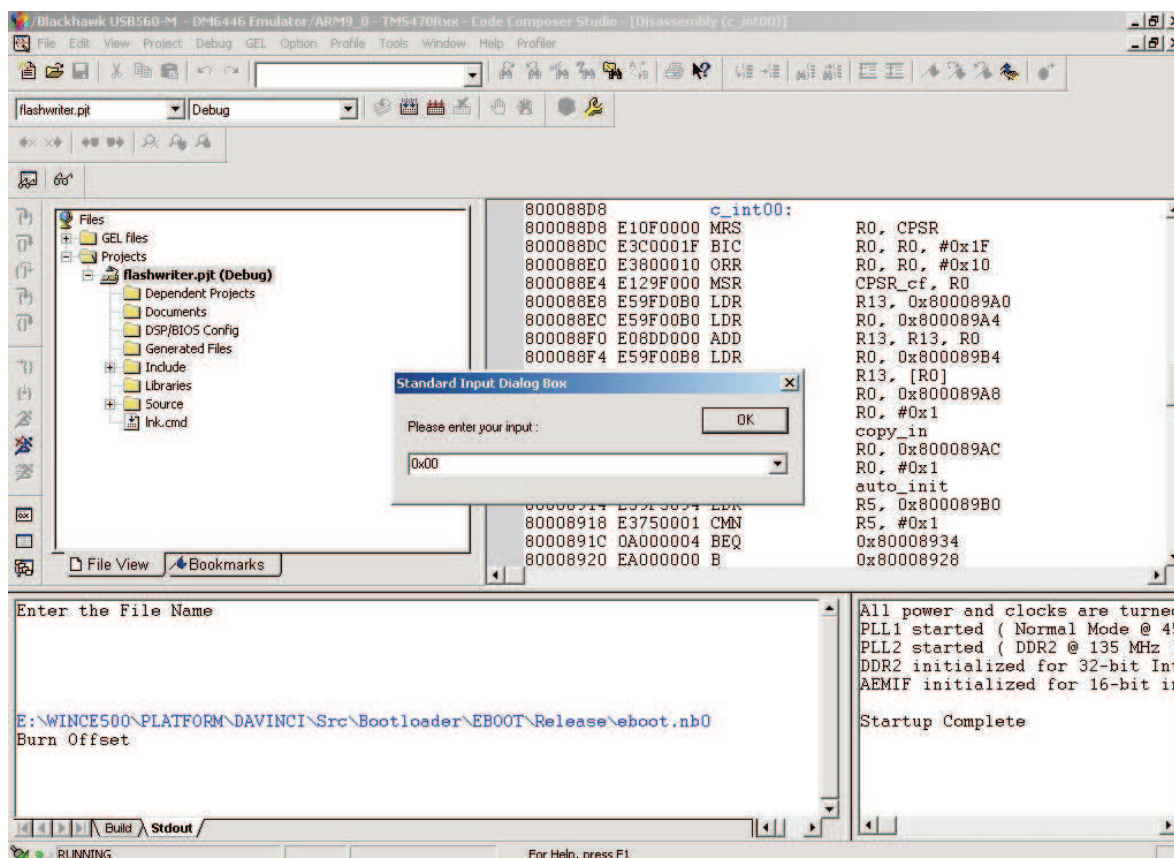

Figure 10. Code Composer Studio Program "Offset" Option
Step 3. Enter the value 0x0000 in the offset field when prompted (as shown in Figure 10).